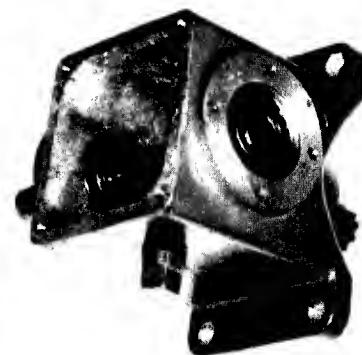

FIG. 10.16--BEARING INSTALLED OVER INPUT SHAFT
21. Install bearing on other end of input shaft, Fig. 10.16.